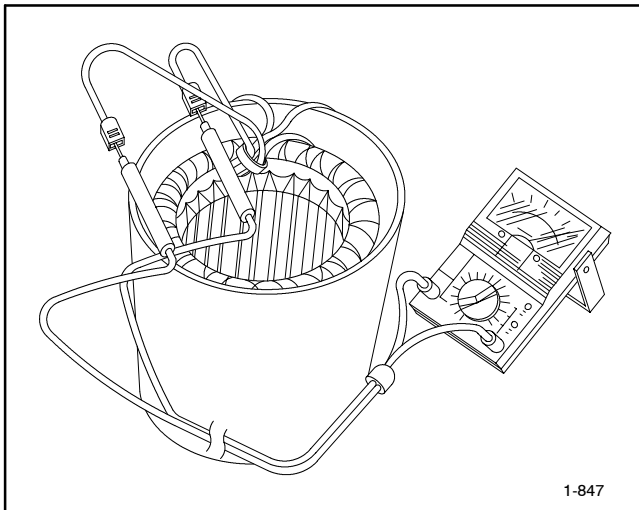

Figure 7-16. Stator Resistance Check
1. To check stator continuity, set ohmmeter on R x 1 scale. Contact the red and black meter leads; adjust ohmmeter to zero ohms. Check stator continuity by connecting meter leads to stator leads as shown in Figure 7-16.